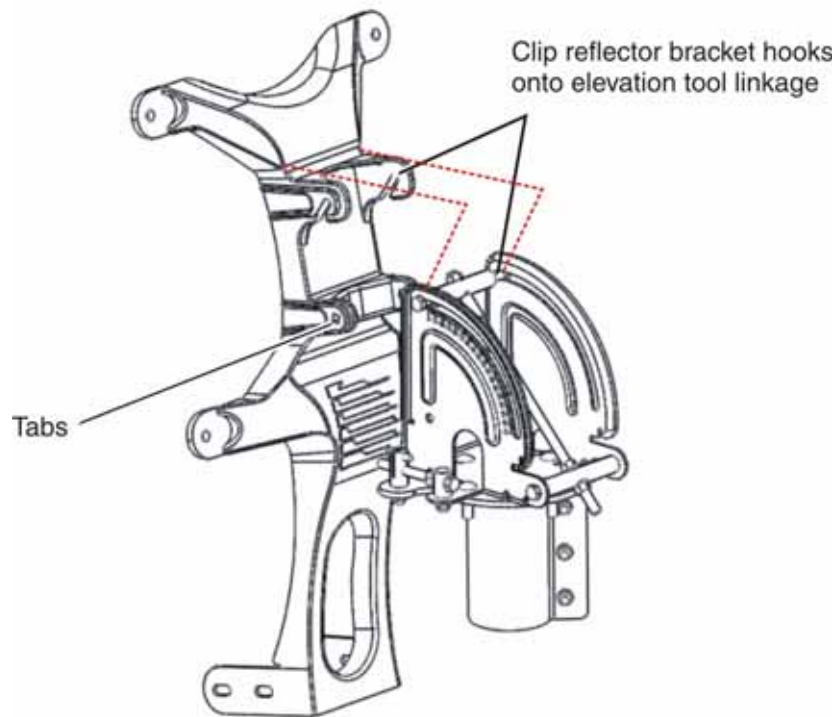

Figure 10: Attaching the reflector bracket to the Az/EI mount
2. Clip the hooks near the top of the reflector bracket over the elevation linkage as shown in Figure 10.